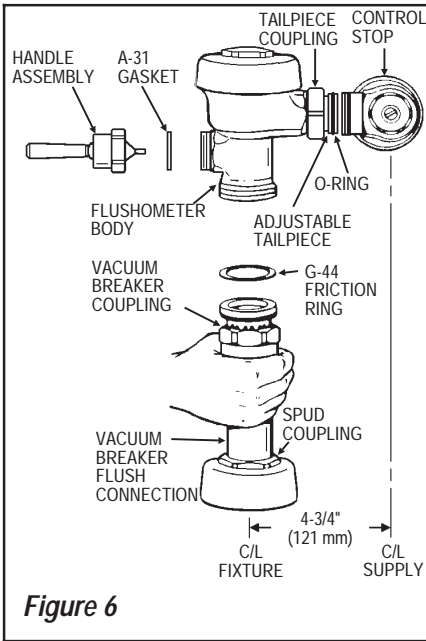

Figure 6
Step 4 - Install Handle (Figure 6)